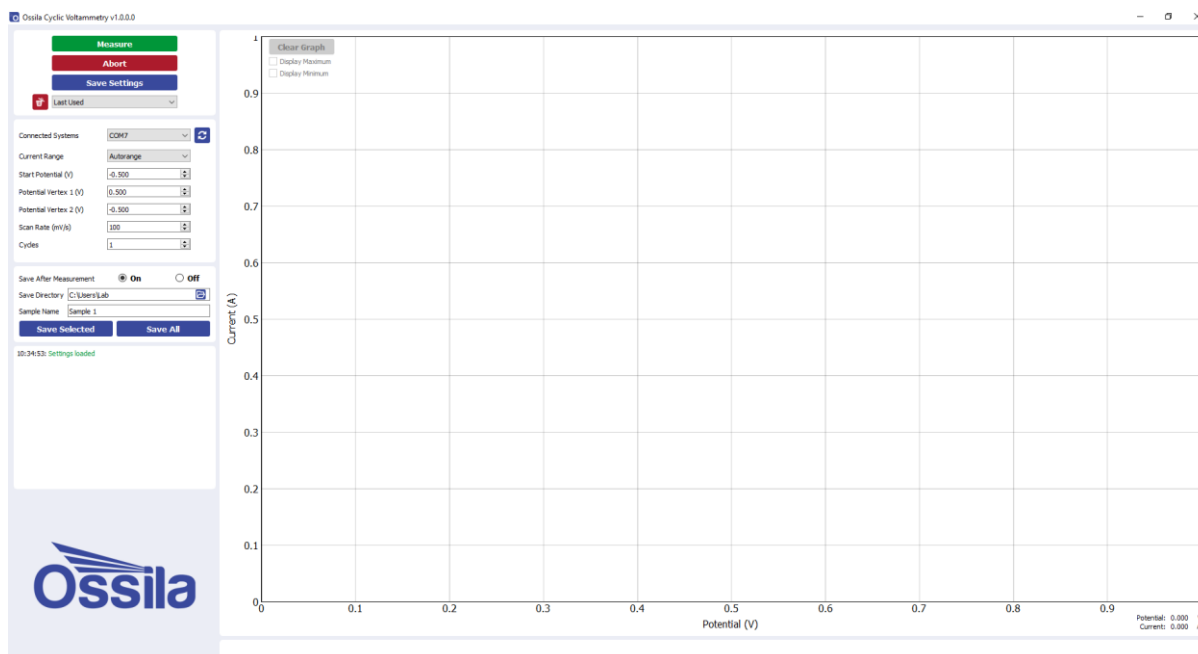

Figure 9.2. Ossila Cyclic Voltammetry software.
4. Start the Ossila Cyclic Voltammetry software. The window shown in **Figure 9.2** will open.
There are several settings in the software which must be entered before taking a measurement. These are found on the panel to the left of the window as shown in **Figure 9.2**.